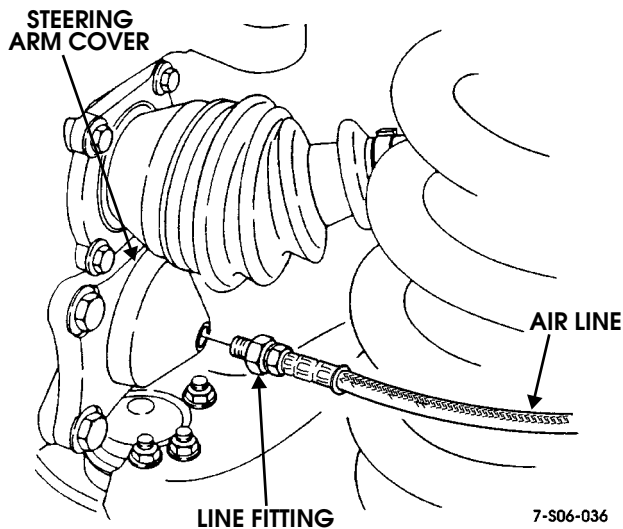

Figure 6-82: Line Connection at Steering Arm Cover
3. Remove line fitting from steering arm cover (Figure 6-82).
2. Apply sealant to line fitting and install in steering arm cover (Figure 6-82).